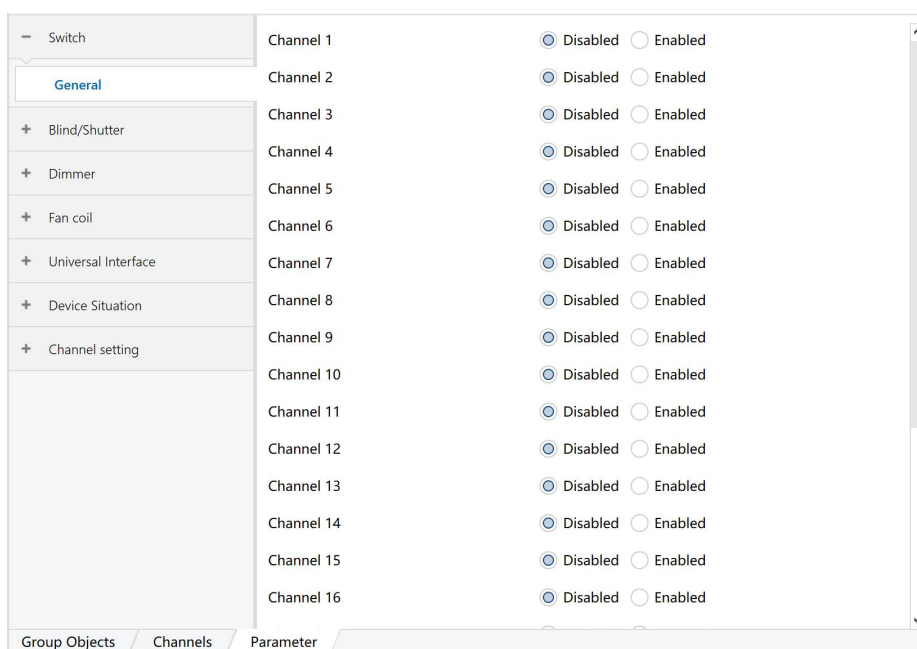

Figure 6.1.1
- 1) Open the 10A series multifunctional actuator parameter setting interface in ETS5, as shown in Figure 6.1.1. The parameter "Channel X" indicates the output of the corresponding channel. The parameter "Field control" indicates the field control function. When the "Off" command is sent, the relay status of each channel is saved and closed. When the "On" command is sent, the last saved relay status is